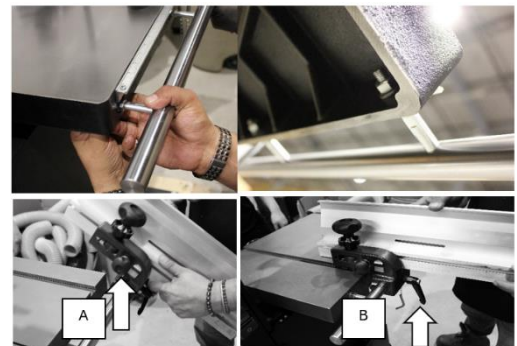

Figure 6: Installing the fence and rails.
- Slide the rip fence onto the fence carrier and secure it by tightening the fence lock knob, located on the carrier's side opposite the fence (Fig. 6 A).
- Use the front locking handle to lock the fence on the rail to prevent movement during assembly (Fig. 6 B).